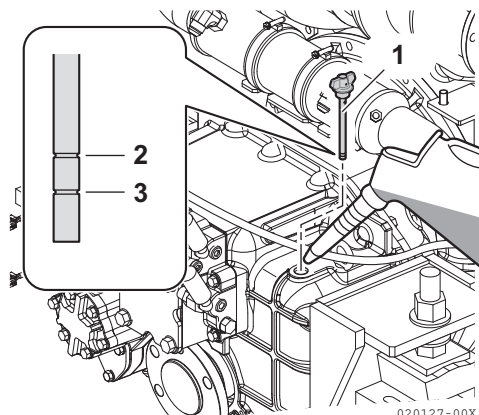

Figure 7
2. Remove the filler cap (**Figure 7, (1)**) at the top of the housing.
3. Remove dipstick (**Figure 7, (1)**) and wipe with clean cloth.
5. Remove dipstick. The oil level should be between upper (**Figure 7, (2)**) and lower (**Figure 7, (3)**) lines on the dipstick.
3. Fill with oil to the upper limit on the dipstick (**Figure 7, (2)**). See *Marine Gear Oil Specifications* on page 71.